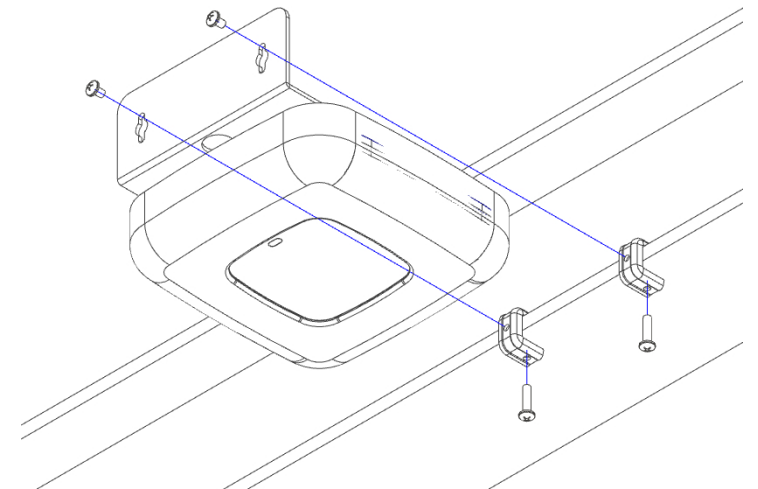

Figure 3
Step 4 – Mount the beam clamps to the desired location while maintaining the spacing of the mounting key slots on the back side of the bracket. Tighten the underside bolts to secure the beam clamps. Use the provided 1/4-20 screws to fasten the bracket and access point assembly (Figure 3). Due to the weight of this unit, plastic expansion wall anchors are not adequate for drywall installations. During installation, Oberon recommends that one of the following be used: 1) threaded drywall anchors; 2) threaded drywall toggles; 3) sleeve type hollow wall anchors (a.k.a. molly bolts); or 4) toggle bolts